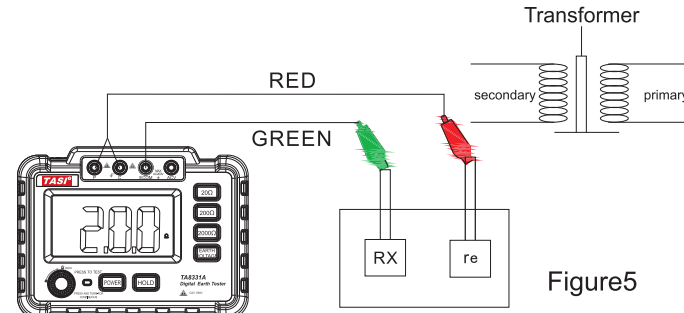

Figure5
1) Test the connection of the wires. Please wire as shown in Figure 5.
3) Ground resistance measurement (Figure 5)